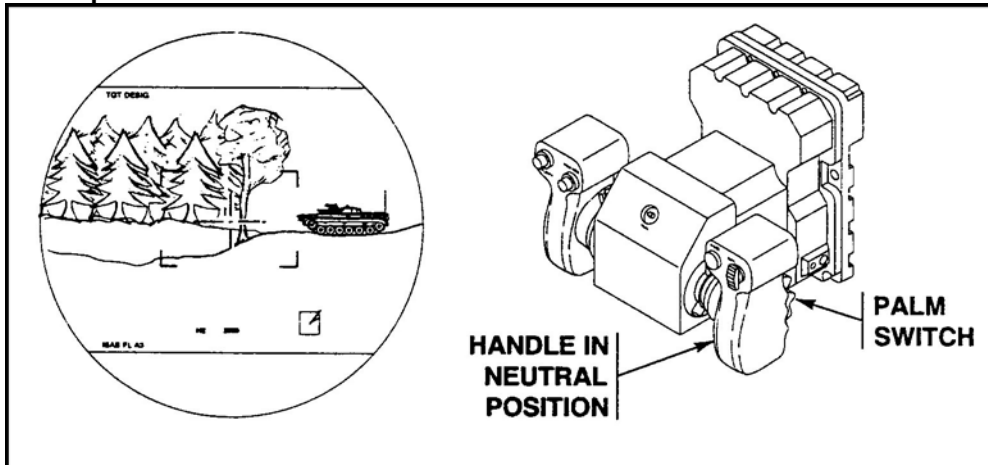

Figure 9. Gunner's hand station.
- (1) Squeeze and hold palm switch on( CHS).
- (2) Move hand station left or right to traverse CIV.
- (3) Move hand station forward and backward to elevate or depress the CIV.
- (4) Repeat, if necessary, steps (1) through (3) until the crosshairs are centered on the target.
- (5) Release palm switches.
- c. Gunner returns the gunner's hand station (GHS) to the neutral position (Figure 9).